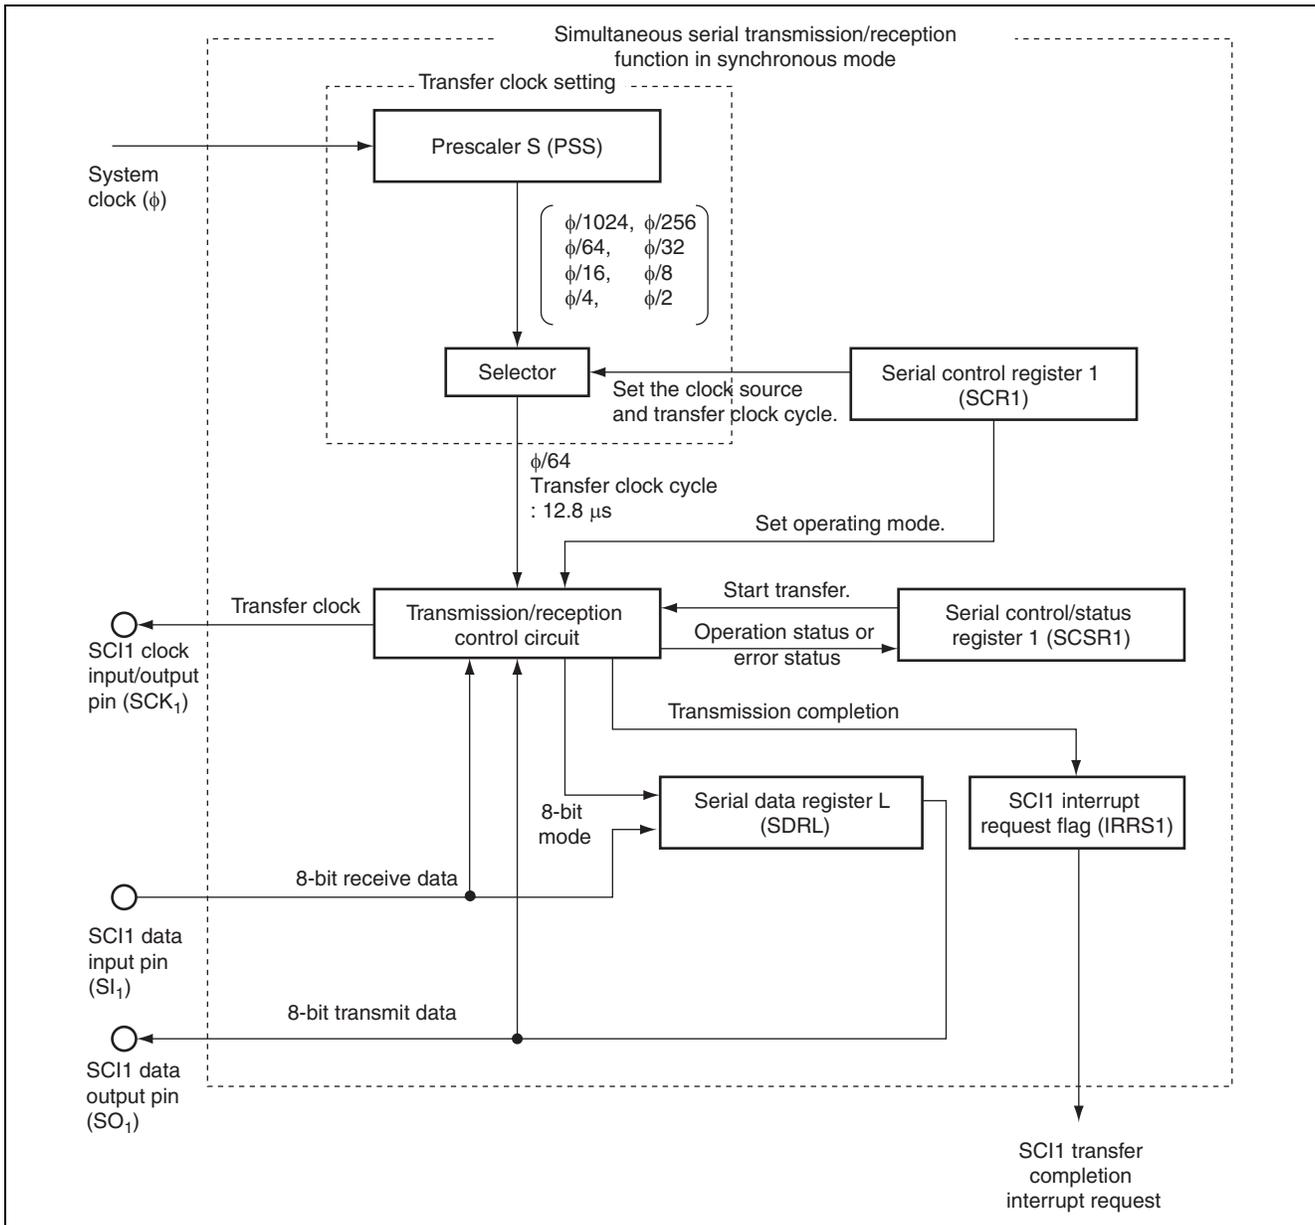

Figure 2.1 Block Diagram of Simultaneous Serial Transmission/Reception Function in Synchronous Mode
1. In this sample task, serial data is simultaneously transmitted/received in synchronous mode via the serial communication interface (SCI). Figure 2.1 shows a block diagram of simultaneous serial transmission/reception in synchronous mode, and the following is the description for the block diagram: